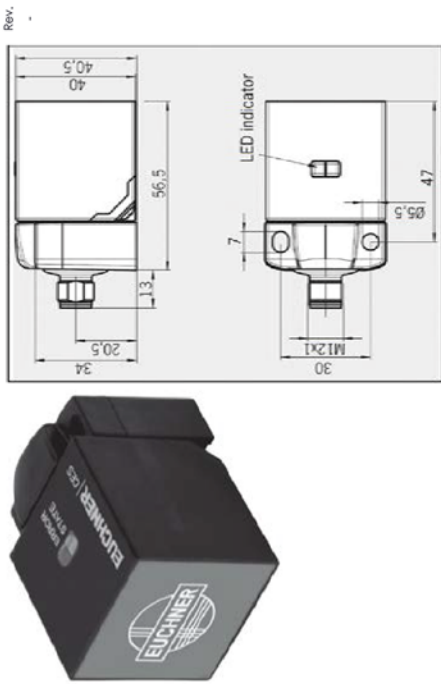

Figure 1: Euchner_CES-AP-C01 Series Safety Sensor
8. The 9121-DL9-M module requires the use of a two channel, PL e rated contactless Safety Sensor, specifically, Euchner CES-AP-C01-CH-SB-106798 or CES-AP-M-C04-USB-117324 (reference Figures 1 and 2). The Safety Sensor is not included with the DL9 but is available from ATI. The Safety Sensor is powered by 24V US1 current limited (24V_TH) Profinet power.